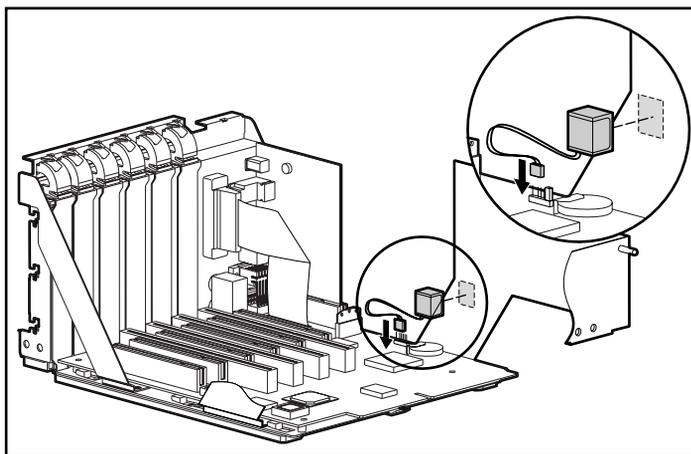

Figure D-1. Attaching the replacement battery
7. Locate the jumper on the expansion cage system board, as shown in Figure D-1.